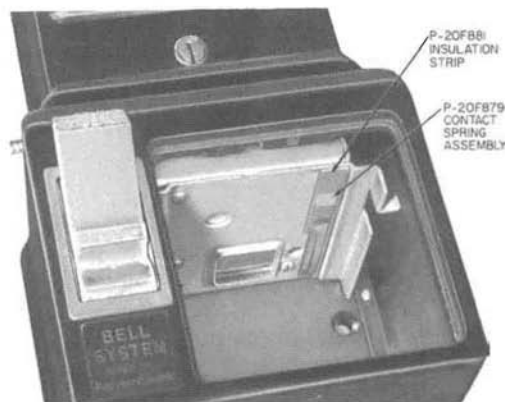
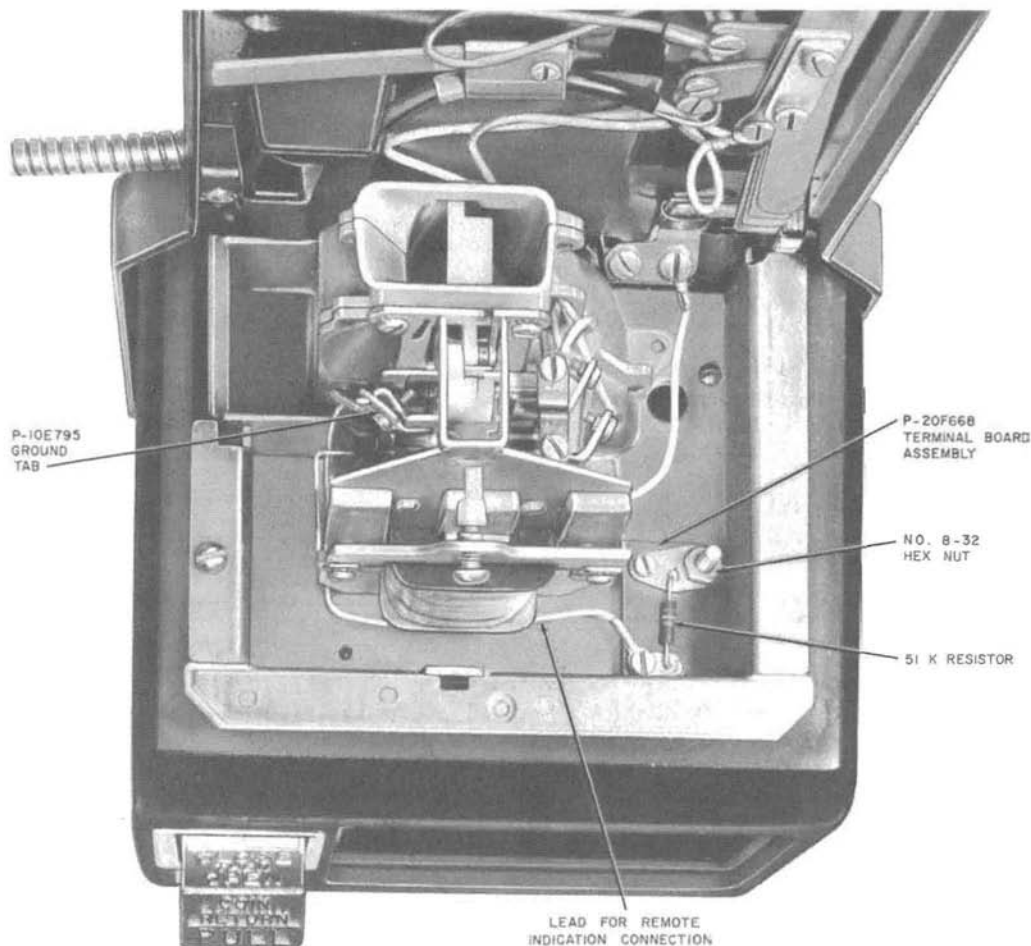

Fig. 7—Installation of Insulation Strip and Contact Spring Assembly
Fig. 8—Installation of Terminal Board Assembly
- (3) Remove the RH screw which secures the right front of the 1B rail to the housing assembly.
- (4) Using the 1/4-inch drill, enlarge the hole where the screw was removed.
- (5) Using a suitable file, remove all burrs from the 1B rail.
- (6) Remove all drill chips from the telephone set.
- (7) Install totalizer assembly and coin chassis as follows:
- (a) Install coin chassis using reverse of procedure (1).
- (b) Thread (BK) and (Y) leads of chassis through hole on coin hopper. Connect (BK) lead to terminal 3 and (Y) lead to terminal G of coin relay.
- (8) Position the insulation strip against the 1B rail with the boss on the strip in the 1/4-inch mounting screw hole (Fig. 7). Hold the contact springs in place with the stud extending through the hole drilled in the base, and fasten the terminal board in place on the housing base with the nut provided (Fig. 8).
4.02 The lead provided with the D-180042 kit is equipped with a screw clamp to facilitate fastening to the ground tab (P-10E795) on the coin relay (Fig. 8). Care must be taken not to alter the adjustment of the coin relay by bending the spring member. Connect the spade tip of the lead to the front terminal on the terminal board.